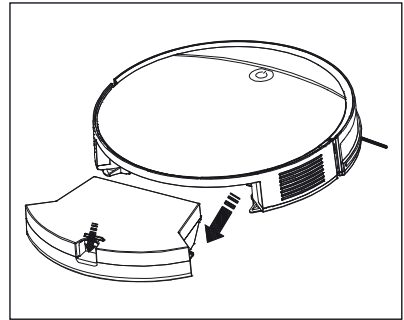

Fig. 7
- 1) Press the release button **13** on the dust container **14**, and pull it out of the appliance (see Fig. 7).